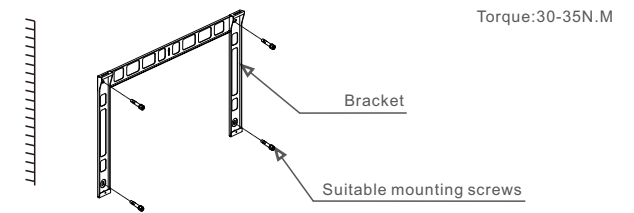
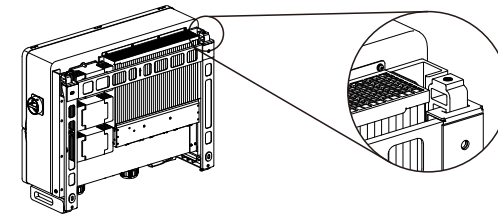

Figure 3.7 Inverter wall mounting
Figure 3.8 Install the inverter
Refer to figure 3.7 and figure 3.8 Inverter shall be mounted vertically.
1. Refer to Figure 3.7, drill holes for mounting screws based on the hole diameter of bracket using a precision drill keeping the drill perpendicular to the wall. Max depth is 90mm.
2. Make sure the bracket is horizontal. And the mounting holes (in Figure 3.7) are marked correctly. Drill the holes into wall at your marks.